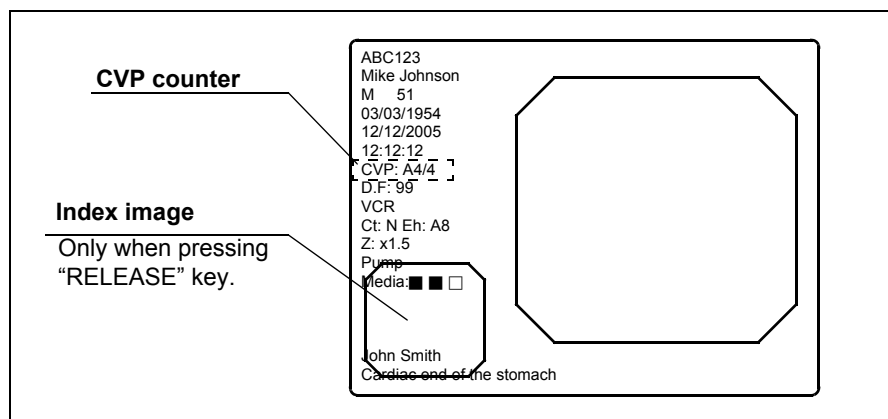

Figure 5.81
- Press the "CAPTURE" key or "RELEASE" key to capture the endoscopic image into the memory of the video printer. The CVP counter on the monitor increments by one (see Figure 5.81).
- Press the "CAPTURE" key or "RELEASE" key to overwrite the new image on the previous image. The CVP counter on the monitor increments by one (see Figure 5.81).